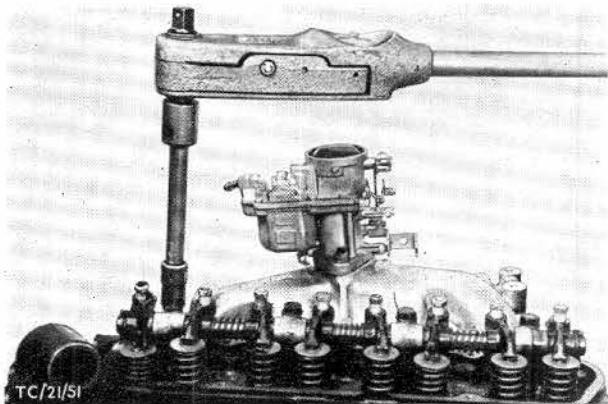

Fig. 92. Torque rocker shaft bolts as specified. (See Technical Data).
7. Insert push rods into tappet sockets. Position rocker shaft, guiding rocker arm adjusting screws into push rod sockets. Replace rocker shaft bolts and torque as specified, Fig. 92. (See Technical Data.)